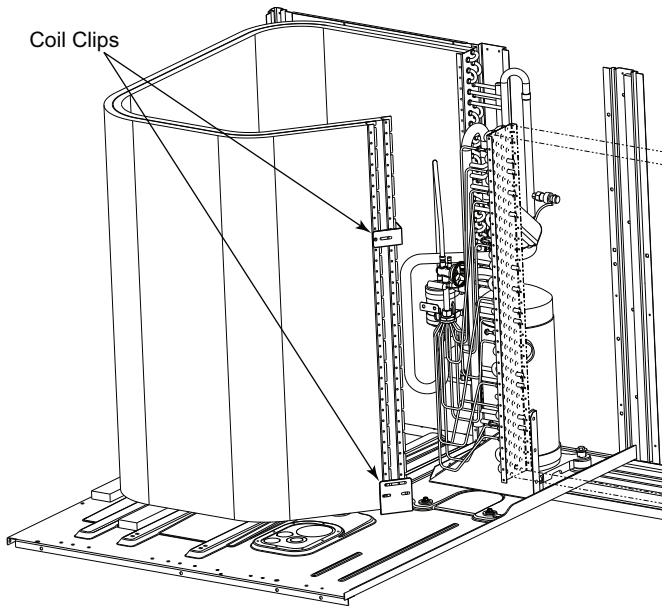

Fig. 17 — Condenser Coil Clips
- Remove the screws from both sides of the upper and lower coil retaining clips on the hairpin end of the coil tube sheets. See Fig. 17.